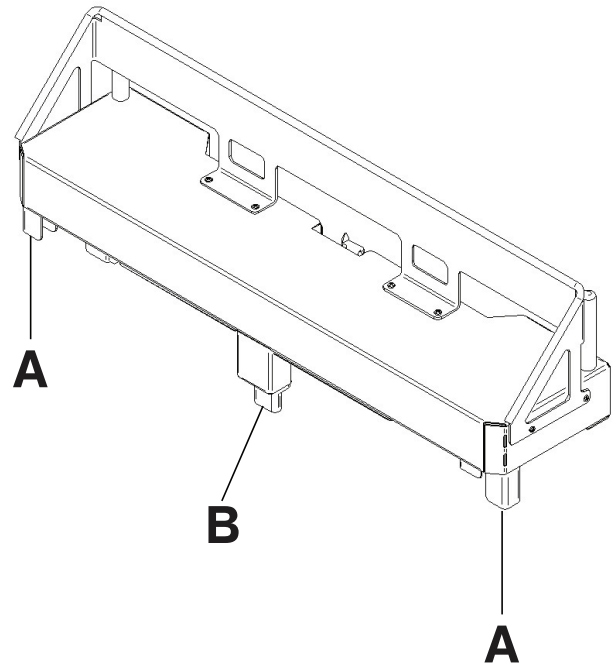

Figure 110 – Attaching the bed extender option
3. Insert the bed extender option legs (A) and the footboard connector (B) onto the foot end of the product (Figure 110).